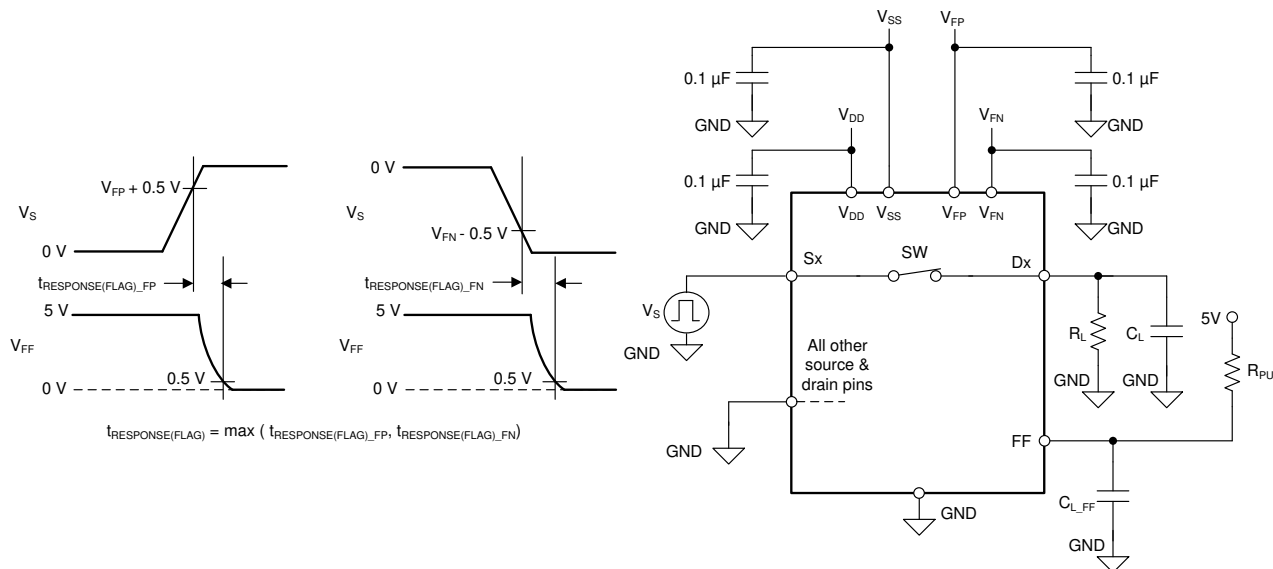

Figure 14-5. Fault Flag Response Time Measurement Setup
Fault flag response time ($t_{\text{RESPONSE(FLAG)}}$) measures the delay between the source voltage exceeding the fault supply voltage (V_{FP} or V_{FN}) by 0.5 V and the general fault flag (FF) pin to go below 10% of its original value. Figure 14-5 shows the setup used to measure $t_{\text{RESPONSE(FLAG)}}$.